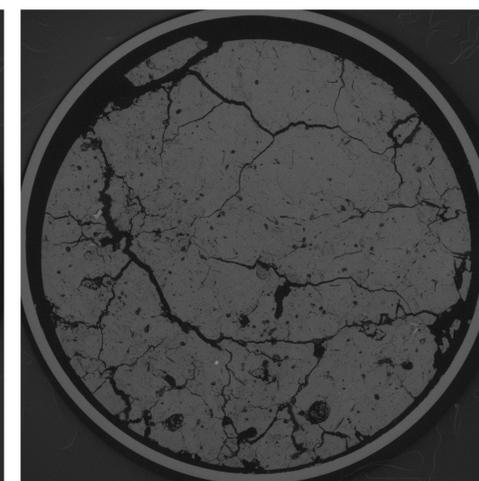

Figure 6. Oven-Dried Core 3
- The cores were then dried, and re-scanned (Figure 6)